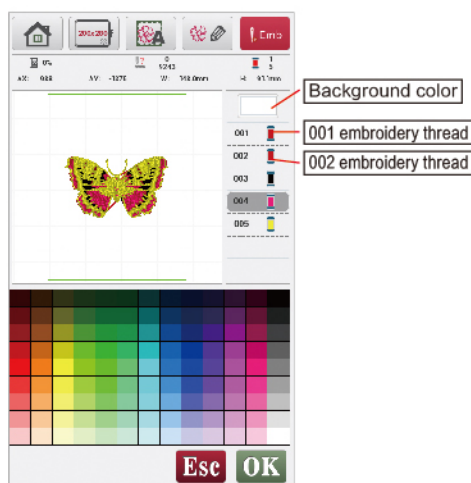

Figure 4
(1) Click color editing key to enter Figure 4 interface
(2) Click background color key to select the color, and confirm by pressing OK key. Click embroidery thread 1 or 2/3/4, and select the changed color, and confirm by pressing OK key